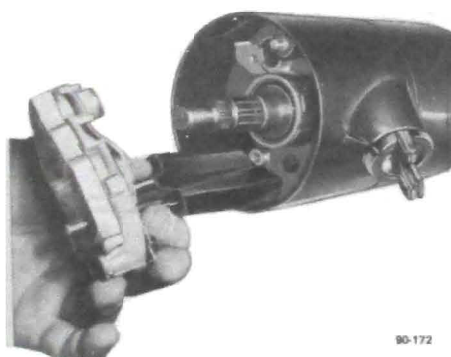

Figure 90-106 Removing Turn Signal Switch and Wires
9. Pull the switch straight up with wire protector. See Figure 90-106.
11. To replace the turn signal switch, be sure the wire harness is in the protector. Feed the connector and protector down through the housing. See Figure 90-106.